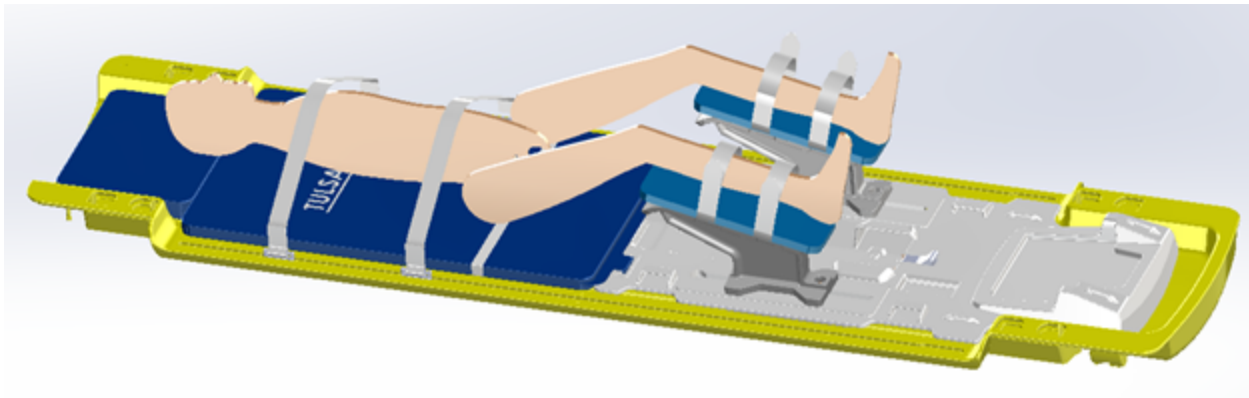

Figure 25: Securing the abdomen and arm straps
1. MRI Technologist: Fasten one abdomen arm-strap tightly over the lower abdomen under the patient's arms to minimize anterior-posterior breathing motion. Wrap the sheet over the abdomen and place the patient's hands on top. Fasten a second abdomen-arm strap over the arms to help fit the patient into the MRI bore (*Figure 25*, your configuration might not match exactly as shown).